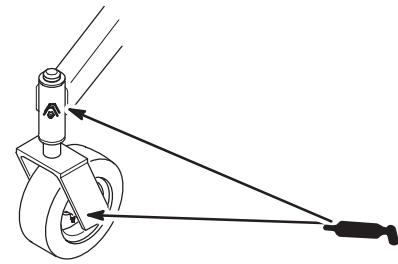

Figure 27
1. Lubricate the front and back wheel bearings and front spindles until grease begins to ooze out of the bearings (Fig. 27).